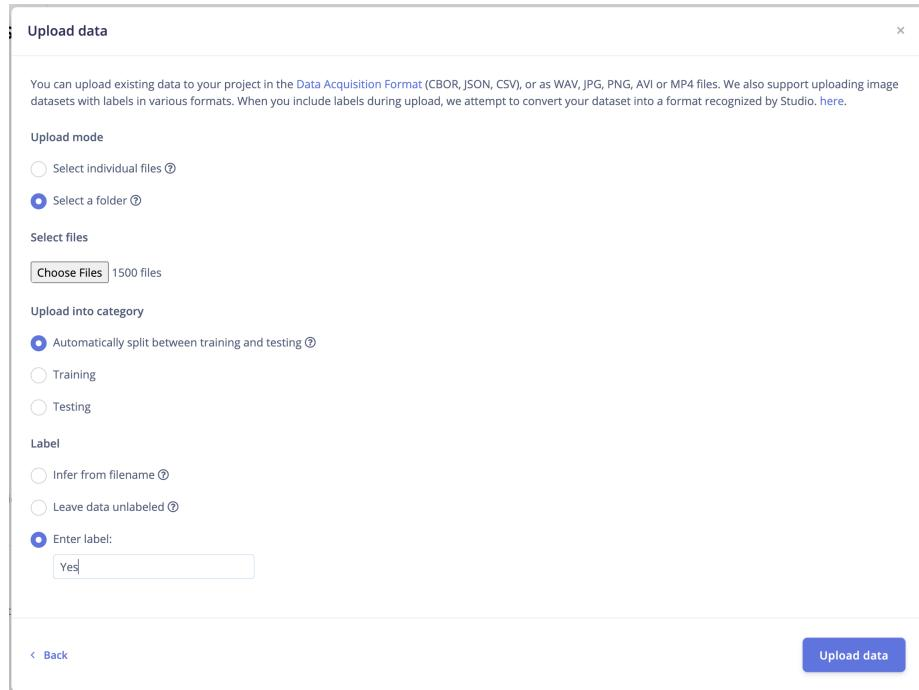

Figure 9.1: This shows a ready to upload set of files.
- (g) Choose: Select folder, choose the folder, automatically split, Enter label so it should look like Figure 9.1.